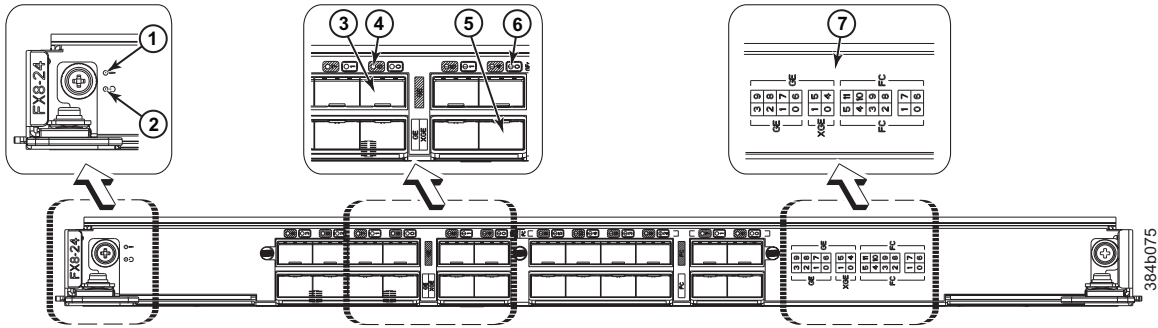

Figure 25. FX8-24 extension blade
- Figure 25 on page 58 illustrates the FX8-24 extension blade